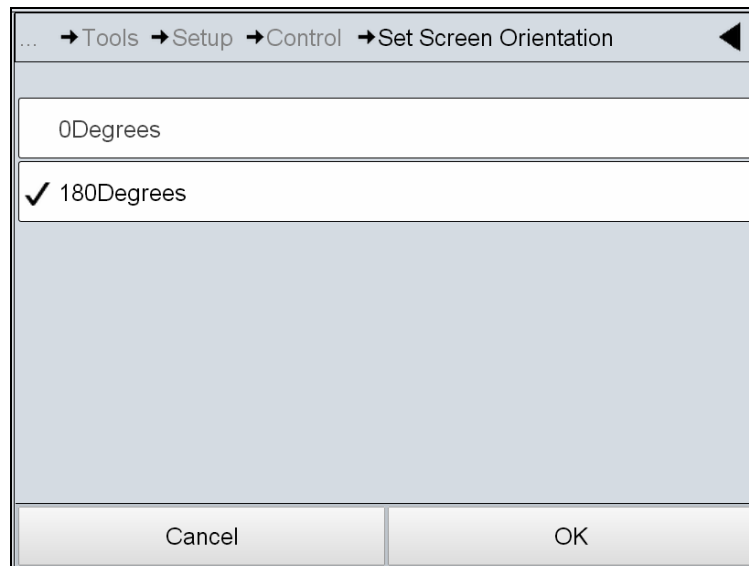

Figure 5-14: Set Screen Orientation
- 1 Navigate to *Tools > Setup > Control > Set Screen Orientation*. *Set Screen Orientation* page appears (see Figure 5-14).